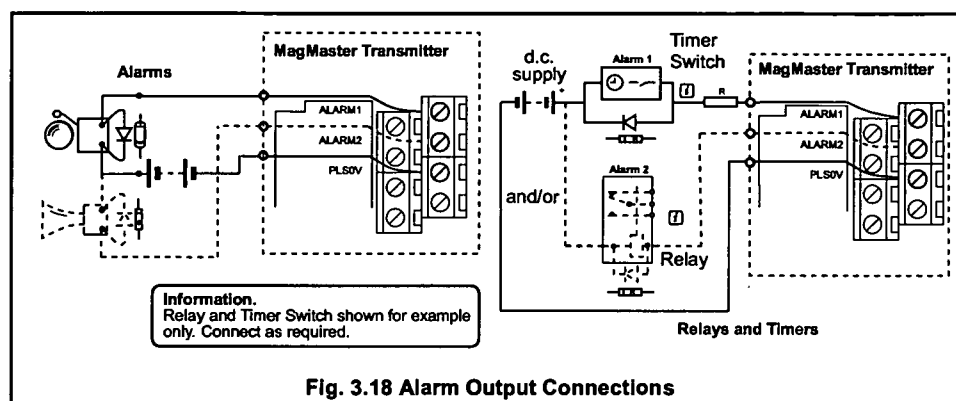

Fig. 3.18 Alarm Output Connections
3.4.3 Alarm Outputs – Fig. 3.18